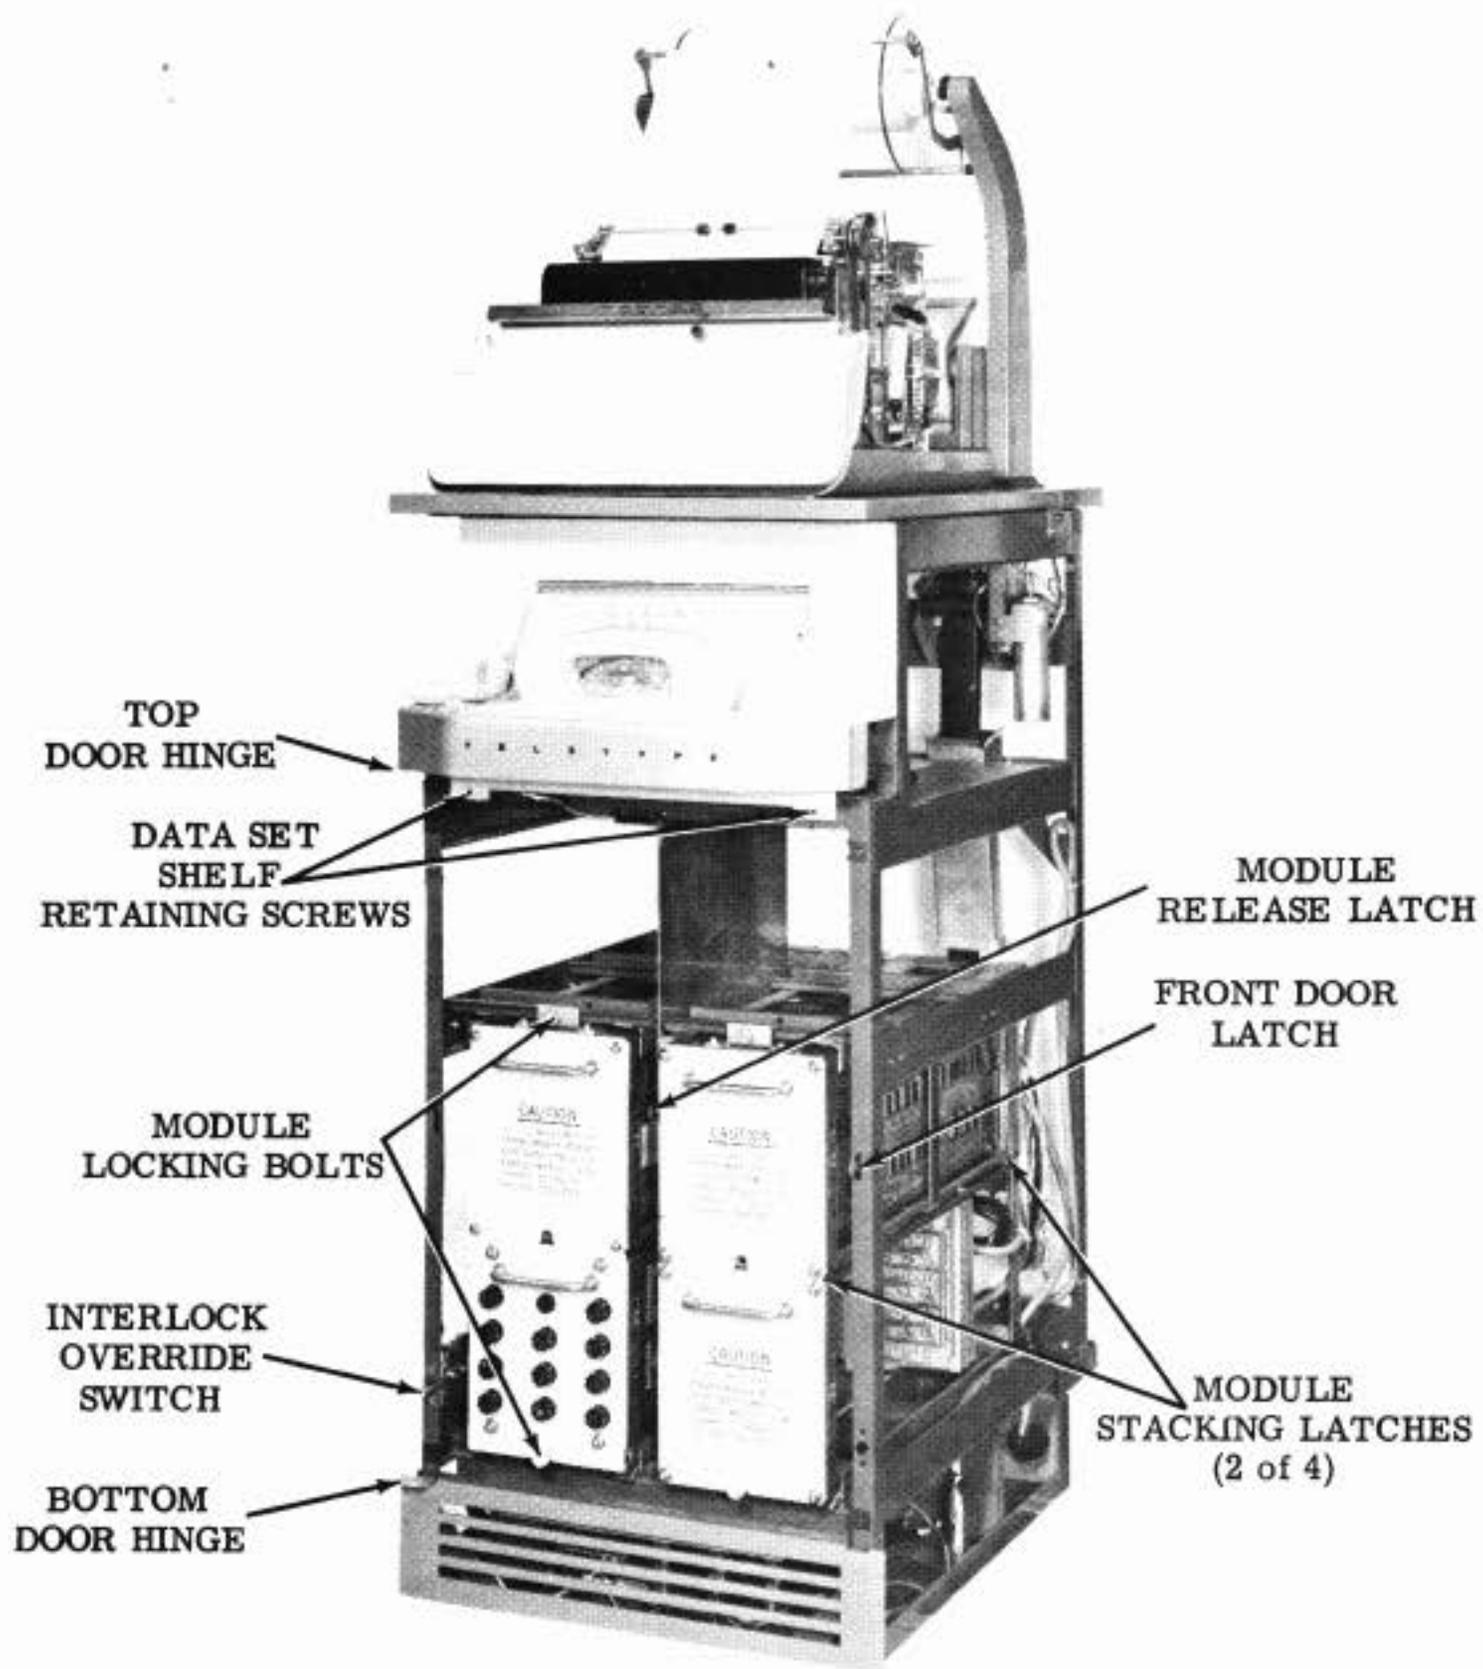

Figure 7 - INKTRONIC Printer With Data Set Shelf Assembly (Panels and Doors Removed)
more convenient to remove the doors and panels to provide full access to the components (Figure 7).
2.25 The four modules that contain most of the electronic circuitry for the printer are mounted in the left and right compartments of the printer cabinet (Figure 7). The printer drive module (DAD) and power supply module (DAPS) are latched together in the left compartment, and the character generator module (DAG) and interface module (DAIF) are latched together in the right compartment. The lower module of each group rests on a pair of guide tracks at the bottom of the compartment. Each set of modules can be extended for servicing by unscrewing the bolts at the top of the upper module and the bottom of the lower module, and sliding the modules forward until they are stopped by the post on the re-